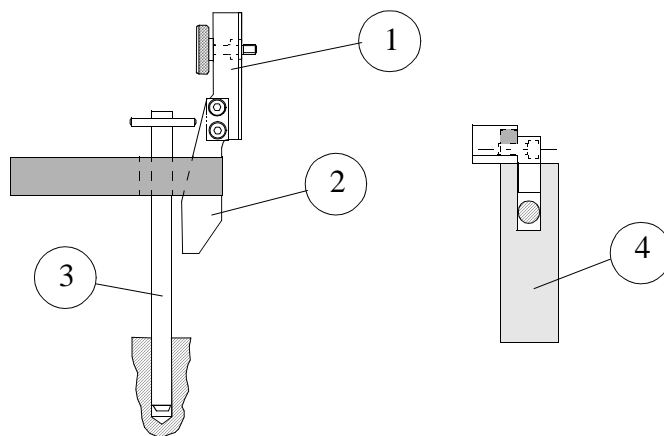

Figure 20 Aligning the pin and stop with the calibration tool for axis 1.
5. Operate the robot manually with the joystick until the measuring pin (3) is positioned within the flat surface of the stop (2).
6. Align the pin and stop with the calibration tool. See Figure 20.